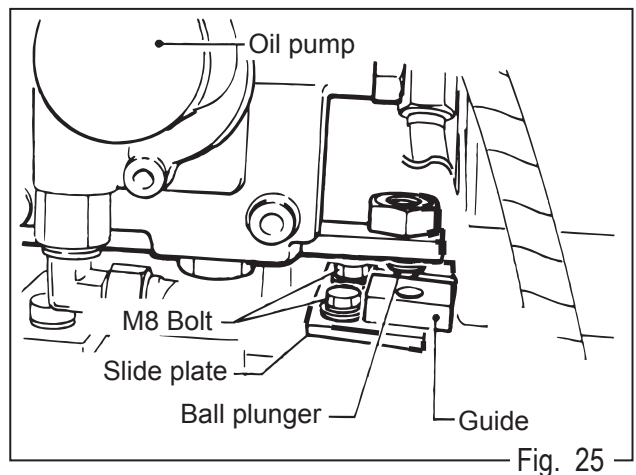

Fig. 25
12.4 Neutral Adjustment of Travel Lever (Fig.25)